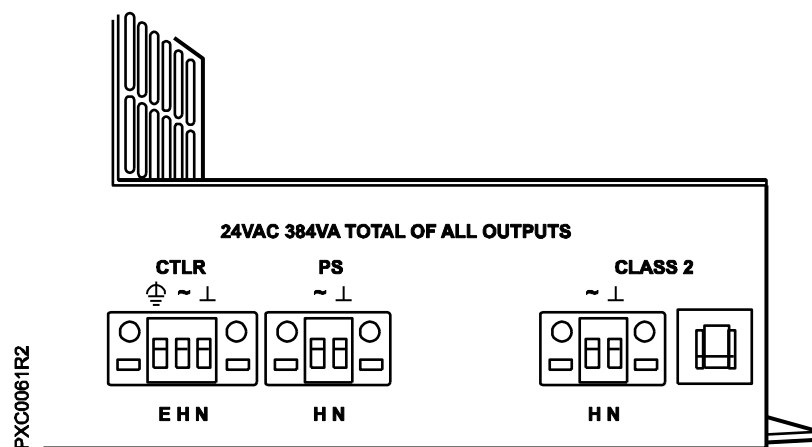
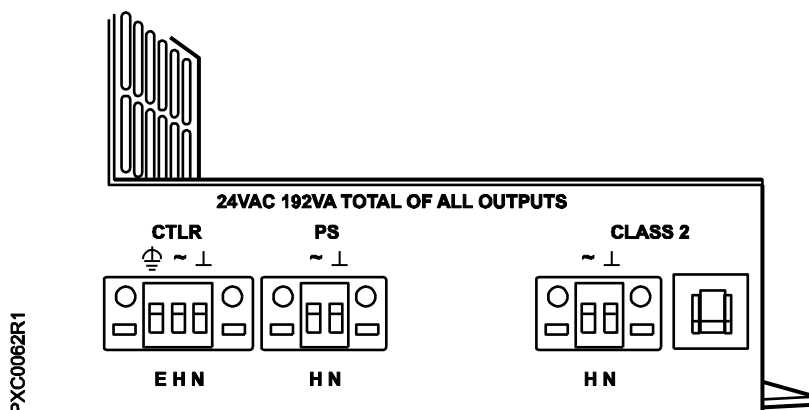

Figure 2. 384 VA Service Box Connections1.
Figure 4. 192 VA Service Box Connections2.
- f. Connect the CS wire inside enclosure to the relay contact normally open terminal (NO).
8. If present, fasten wires from the component power connectors to connectors on the side of the service box. See Figure 2 and Figure 4.